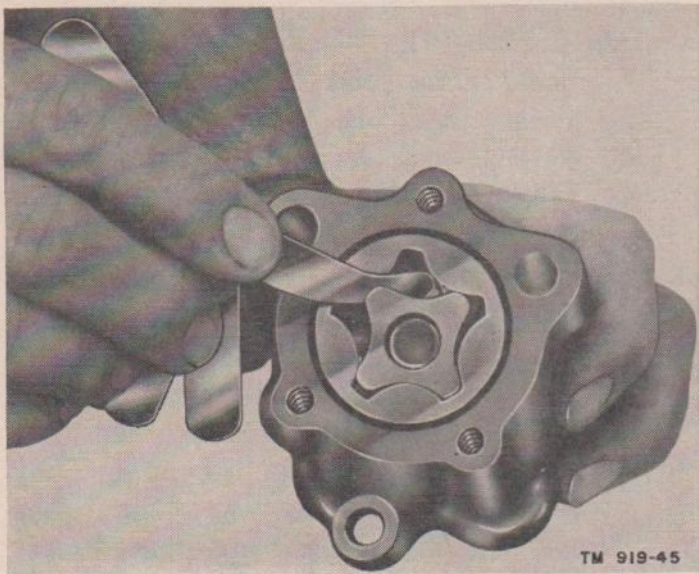

Figure 46. Checking oil pump rotors.
- (3) Match the rotors together with one lobe of the inner rotor pushed completely into the notch of the outer rotor. Measure the clearance between the lobes as shown in figure 46. If this clearance is more than .010 inch, replace both rotors.